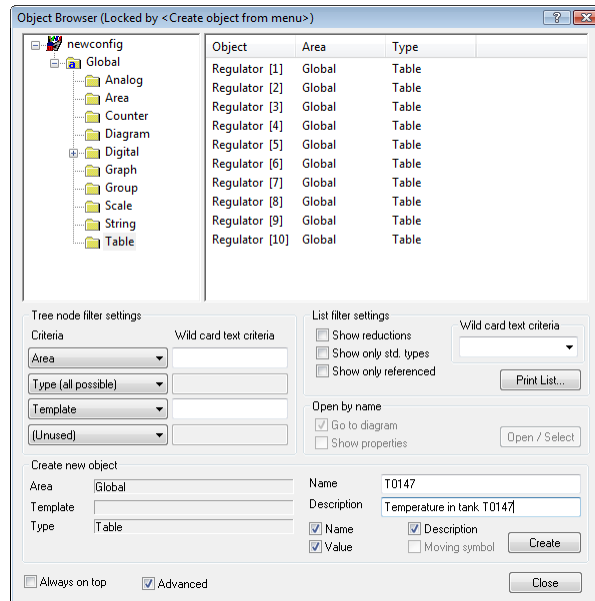

Figure 3.40 In the **Object Browser** you type the unique name of the object and an optional description.
1. Select **Objects** → **Rectangular Field**. The **Object Browser** appears. Select **Table** and type the name and description as shown in Figure 3.40.